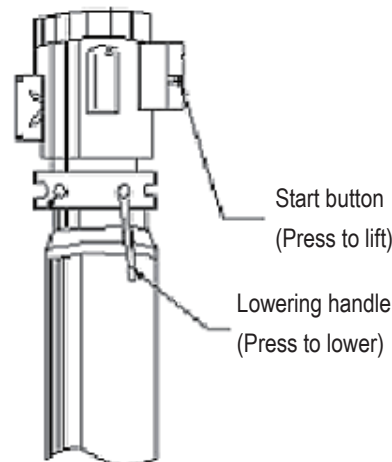

Fig.4
- Press the UP button on the electric control box (Fig.4), slowly lift the vehicle to ensure the load balance, and then raise the lift to the required height.
- Pull the safety lock handle, then press down the lowering handle (Fig.4), the carriage lowers